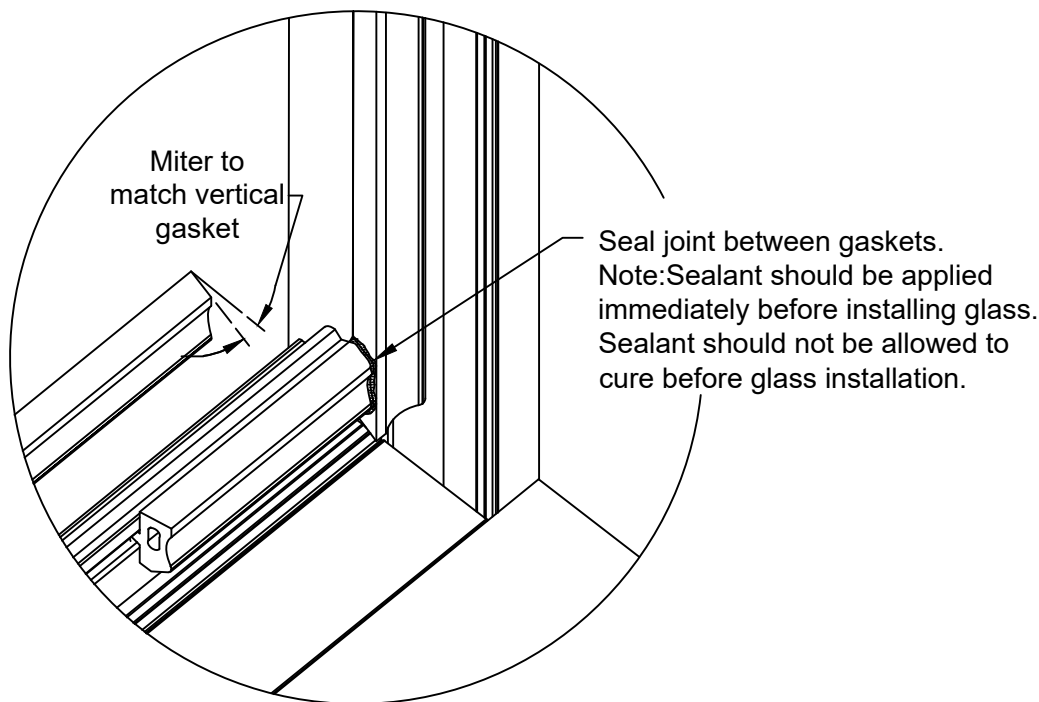

FIGURE 25
- 4.1 Note: To avoid silicone curing before glass is set in place and contamination from job-site debris, glazing prep must be performed as each opening is glazed. Gasket should be cut 1/4" per foot longer than openings to allow for relaxation prior to installing. Do not pre-seal the gaskets in the entire frame; install and seal gaskets as you are ready to set glass in each opening. Install exterior gaskets, both horizontal and vertical, installing vertical gaskets first. If the vertical mullion is spliced, run gasket through the splice joint, setting gasket in fresh silicone at splice joint, trimming the gasket dart as necessary to form an airtight seal. Glazing gaskets at verticals run through; horizontal gaskets butt into vertical gaskets. Crowd the gaskets into corners, cutting the horizontal gaskets at an angle to match bevel on vertical gaskets. Pulling the horizontal gasket back, seal joint between the corners of the gaskets just prior to setting the glass. Release the gasket back to its original position, making sure sealant fills the entire joint. SEE FIGURE 25
- 4.10 Glazing captured system: Install interior gaskets running the vertical gasket through and butting horizontal gaskets between. Joint between vertical and horizontal gaskets must be sealed. Horizontal gaskets should be mitered per FIGURE 25, page 23. Crowd gasket using the formula of 1/4" per foot of aluminum extrusion. Note: Interior gaskets will be installed prior to setting glass at exterior glazed areas.